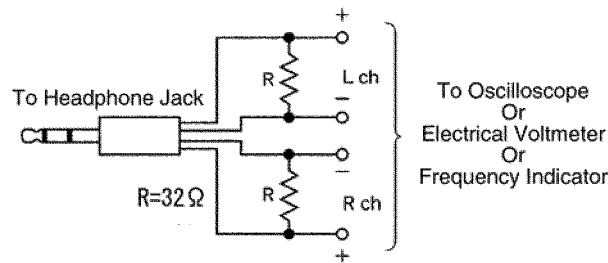

Fig. 1
3. Connect the headphone jack output jig (Fig. 1) to headphone jack.